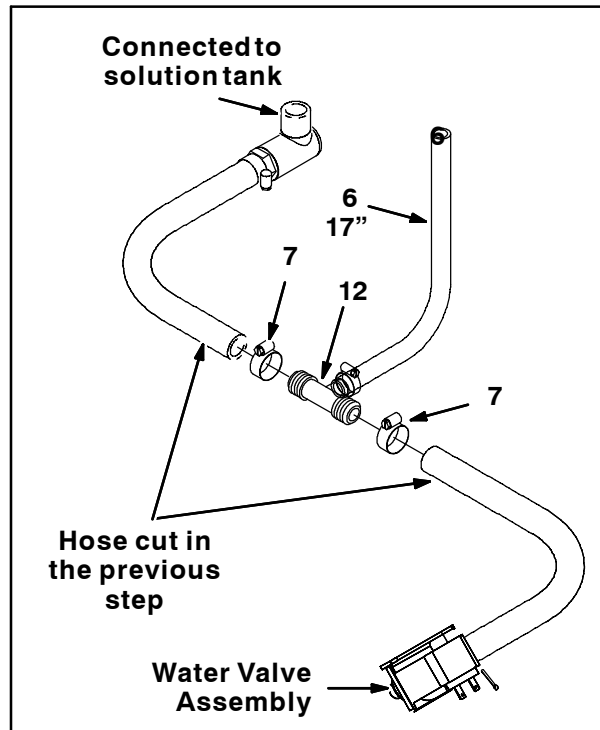

FIG. 3
4. Use two hose clamps (7) to connect the loose ends of hose cut in the previous step to the plastic t-fitting (12) already attached to the 17" PVC hose (6). Refer to Fig. 3.